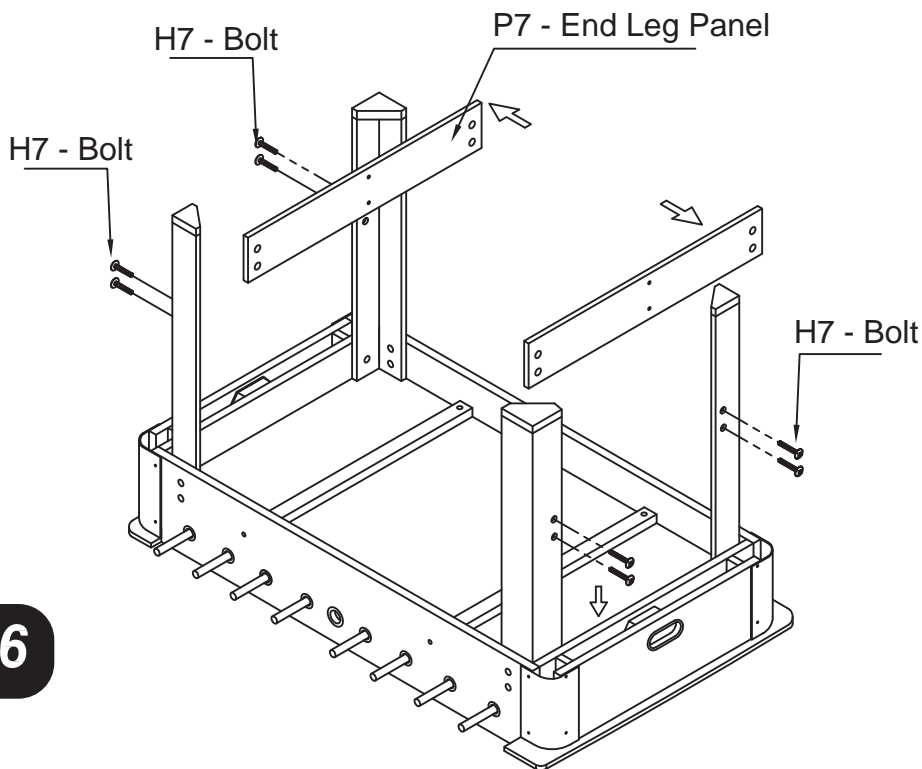

Figure 6
11. Attach End Leg Panel **P7** in side to Legs **P5** and **P6** using Bolt **H7** as shown in **FIGURE 6**.